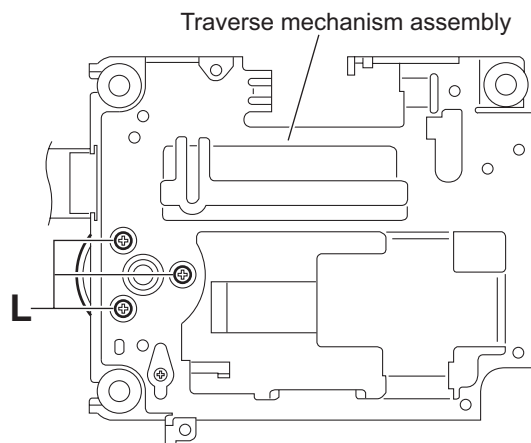

Fig.16
- (2) From the bottom side of the traverse mechanism assembly, remove the three screws **L** attaching the spindle motor board. (See Fig.16.)